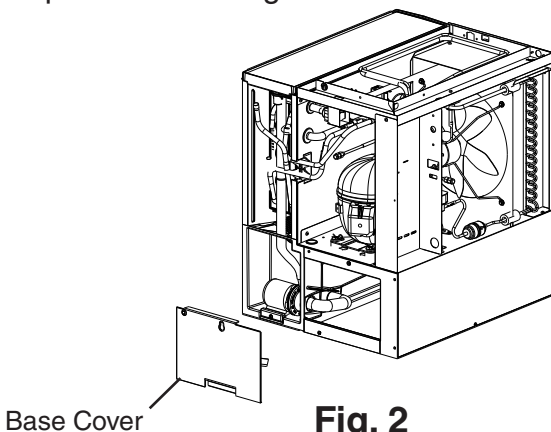

Fig. 2
- 1) Remove the front panel. Move the control switch to the "OFF" position, then remove right side panel, and base cover. See Fig. 2.